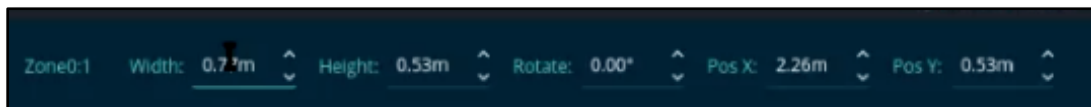
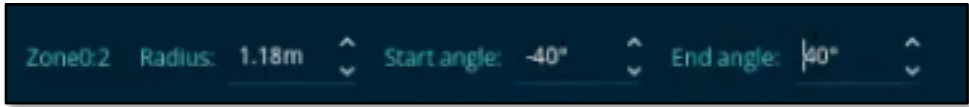

Figure 76. QORTEX Aware: Rectangle Zone Configure Bar
Figure 77. QORTEX Aware: Arc Zone Configure Bar
Rectangle  –Click in the visualizer field to define one vertex of the rectangle and click again to define the opposite vertex. This defines the shape. Make adjustments in the **Configure bar fields** as needed. Adjustment options: Width, Height, Rotate, Pos X, Pos Y. See Figure 76. QORTEX Aware: Rectangle Zone Configure Bar.
Arc  –The center of the arc is positioned at the sensor. Default is a full circle around the sensor. The center of the arc originates at the sensor origin. Make adjustments in the **Configure bar fields** as needed. Adjustment options: Radius, Start angle, End angle. The Start angle must be a value less than the End angle. Left-click to set the radius and drag the end of the radius to change it. See Figure 77. QORTEX Aware: Arc Zone Configure Bar.
6. To edit an existing zone. Select the zone from the list panel. Then click the Configure Bar field's ^/v to reposition or alter the size of the zone. See *Figure 76. QORTEX Aware: Rectangle Zone Configure Bar* and *Figure 77. QORTEX Aware: Arc Zone Configure Bar*.